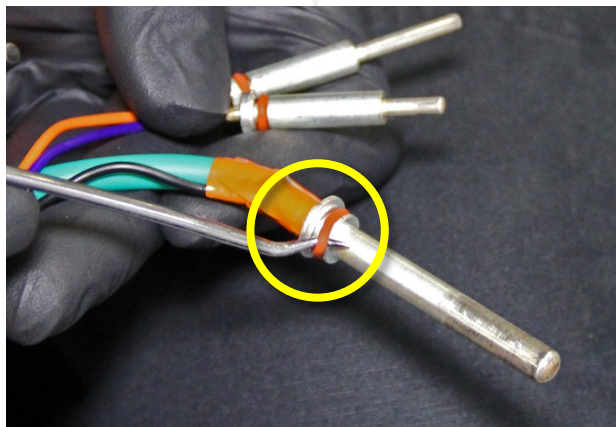

Figure 30
11. Use a pick to remove the O-rings from all 7 pins (Figure 30). Discard the O-rings.